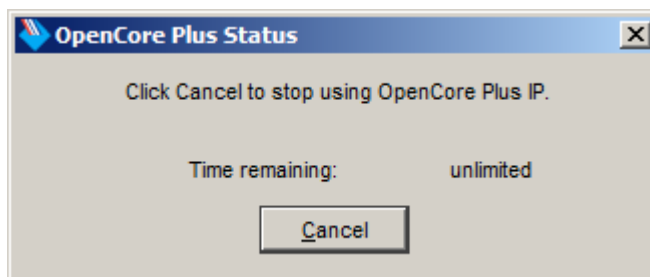

Figure 3-6 Warning message of OpenCore Plus IP
- Since the reference design uses evaluation IP of 10G EMAC, warning message will be displayed after programming completely as shown in Figure 3-6. Reference design can run about 20 mins.